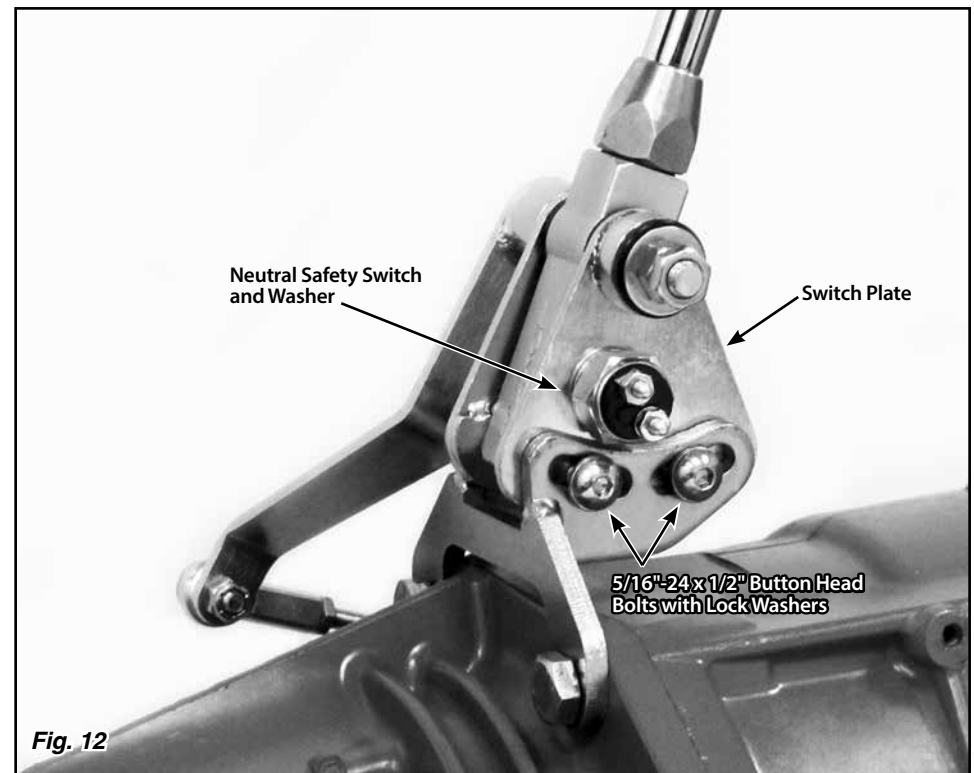

Fig. 12
**Step 17:** Remove the neutral safety switch and washer (Fig. 12) from the passenger side of the shifter using a 7/8" wrench or socket.
**Step 18:** Loosen, but do not remove, the two 5/16"-24 x 1/2" button head bolts that connect the passenger side welded banana bracket to the switch plate (the bolts are in curved, slotted holes). Fig. 12
**Step 2:** Loosen the jam nut below the shifter knob. **DO NOT** loosen or remove the set screw that is in the knob. **Fig. 12**